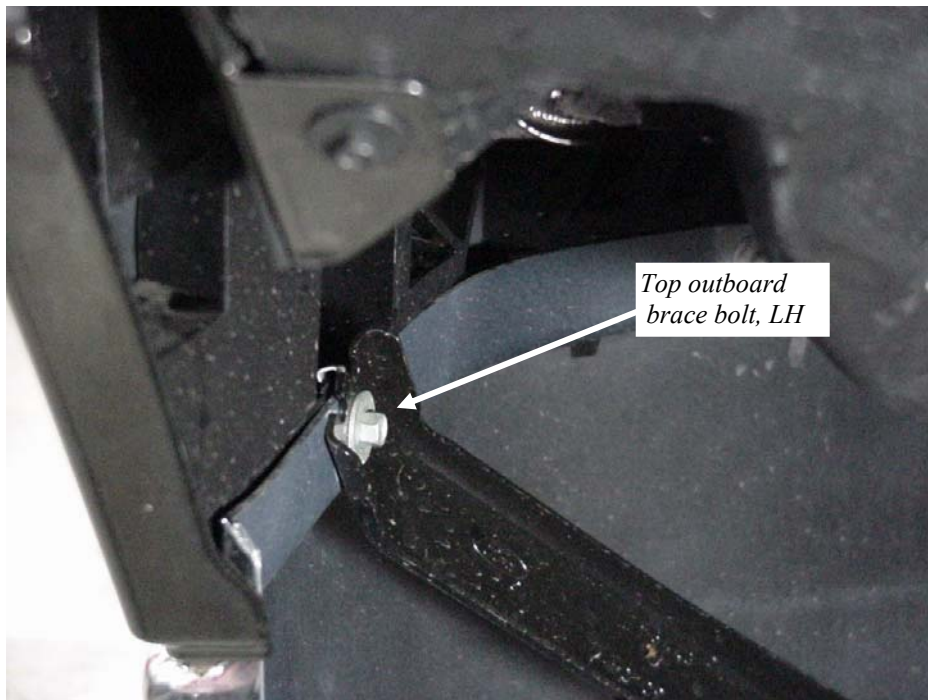

Figure 2 Inside left fender – outboard brace bolt
1. Remove the top, outboard brace bolt from both sides of the bumper. **Figure 2**